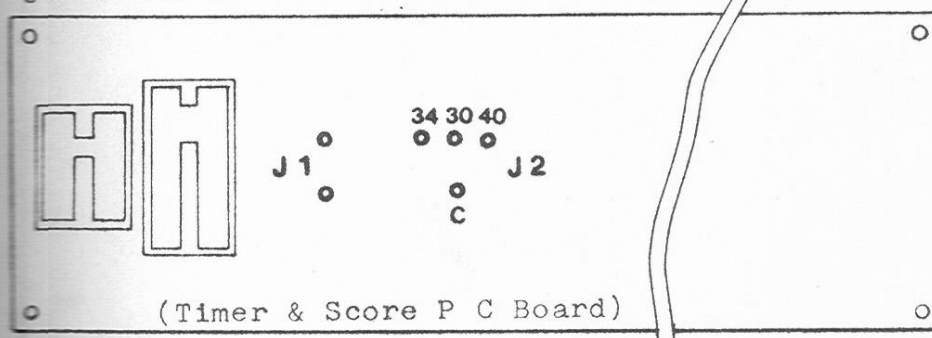

Fig. 5
B. Adjustments on Timer & Score PC Board (See Fig. 5)